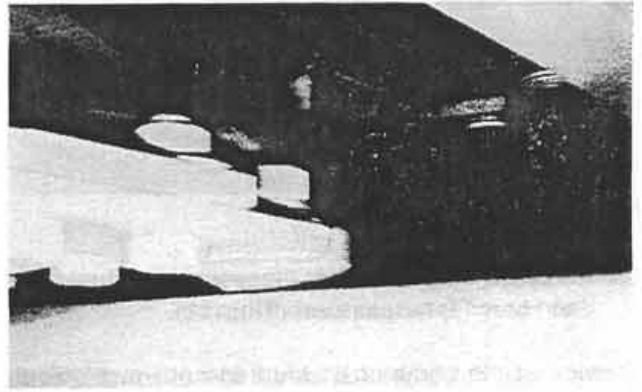
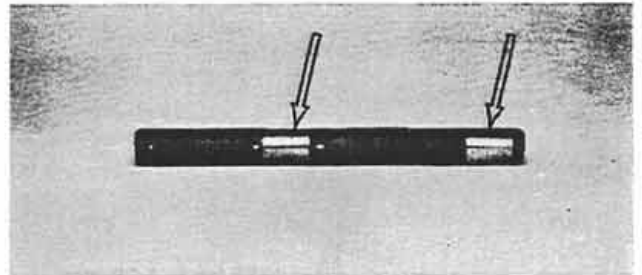
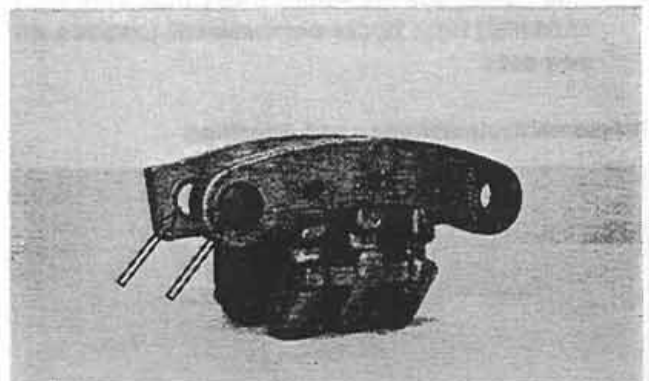

Figure 8:
Figure 9:
Figure 10:
2. On the brake caliper mounting arrangement, check for worn pin bores of the weldment plate (Fig. 8), slide rods (Fig. 9) and slide rod bores of the caliper castings (Fig. 10).